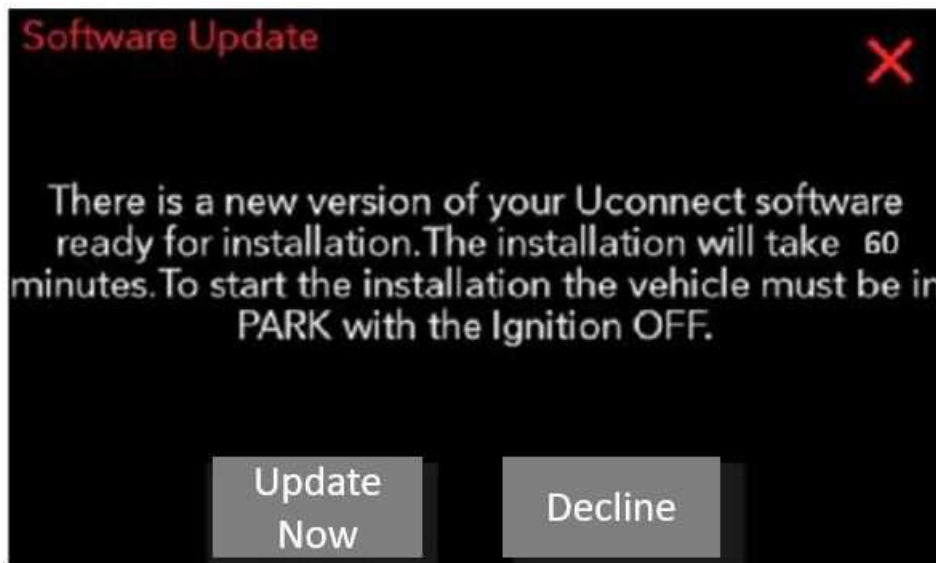

Fig. 8
13. Once the system has verified there is an available update, touch the "Update Now" button. Make sure the vehicle is in park. **Do NOT turn off the ignition at this point,** (Fig. 8) .